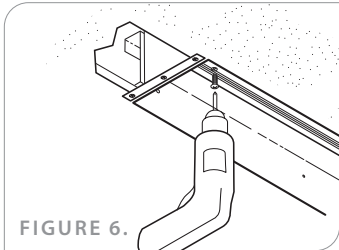

FIGURE 6.
2. Secure trim to drywall using drywall screws (by others). Drive screws straight up. Angled screws may distort fixture aperture (Figure 6).